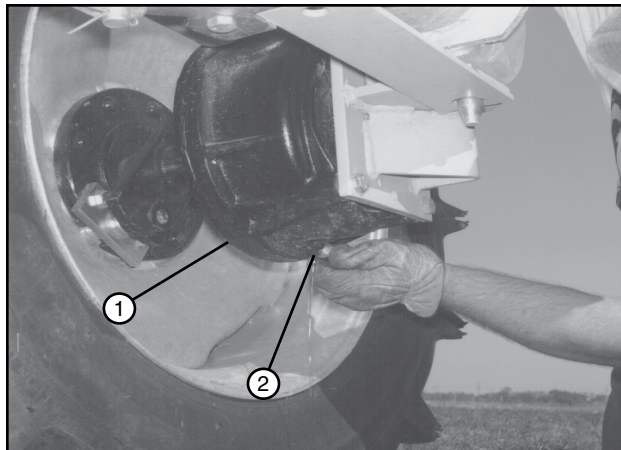

Figure 92-1 1. Wheel Gearbox
3. Remove the drain plug from the bottom of the wheel gearbox and drain the oil into a container. See Figure 92-1.